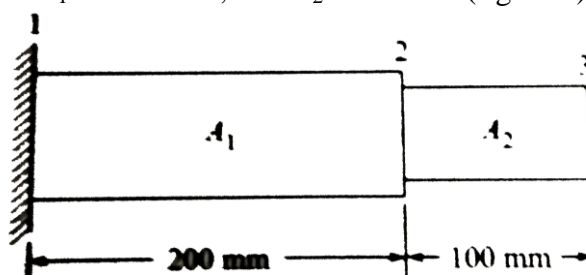

Figure 5
11. Draw the mode shapes of the following stepped bar. Take $E=200$ GPa, specific weight 7850 kg/m³. Take $A_1 = 400$ mm², and $A_2=200$ mm² (figure 5). [10]